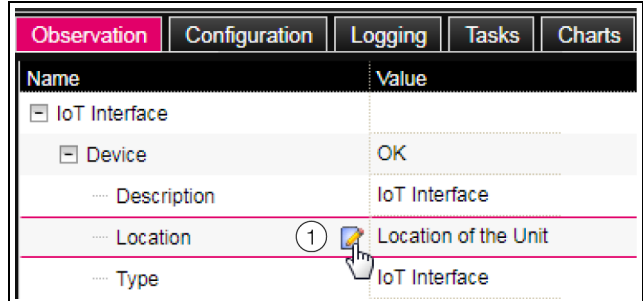

Fig. 22: Editable parameter with "edit" symbol
For all parameters that can be changed, an "edit" symbol in the form of a stylised notebook with pencil appears behind the associated parameter when you place the mouse cursor in the appropriate row (fig. 22, item 1).